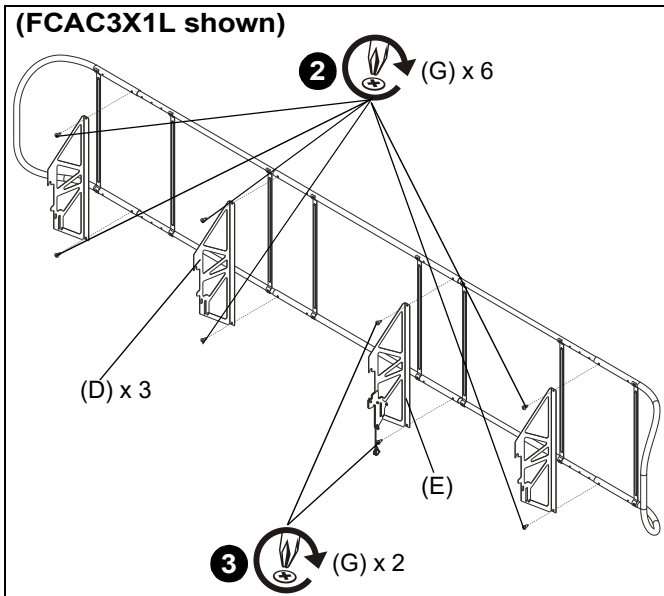

Figure 9
**NOTE:** If there are any possible obstructions on back of display that could interfere with uprights (D and E) installation, measure where they will occur so uprights can be attached accordingly. Uprights without flags (D) can be installed in Step 2 as shown or separately in any available holes in extension frames (M).
2. Use six #12-24 x 3/8" Phillips tapping screws (G) to secure three uprights (without flags) (D) to outside frames (C), extension frames (M) and center frame (B). (See Figure 9)
**NOTE:** Example shown (See Figure 9) is to assemble a maximum length frame. Frame can be made shorter and must be shorter for FCAC3X1M.
3. Use two #12-24 x 3/8" Phillips tapping screws (G) to secure upright (with flag) (E) to center frame (B). (See Figure 9)